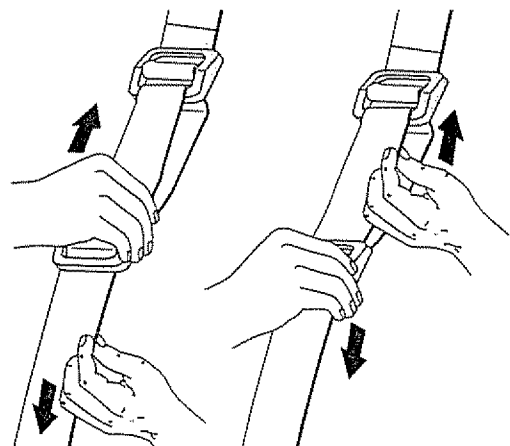

Fig. 8
4. Lengthen the harness by pulling down on the strap and moving the buckle up. Shorten the harness by pulling the strap back through the buckle while moving the buckle down (Fig. 8)